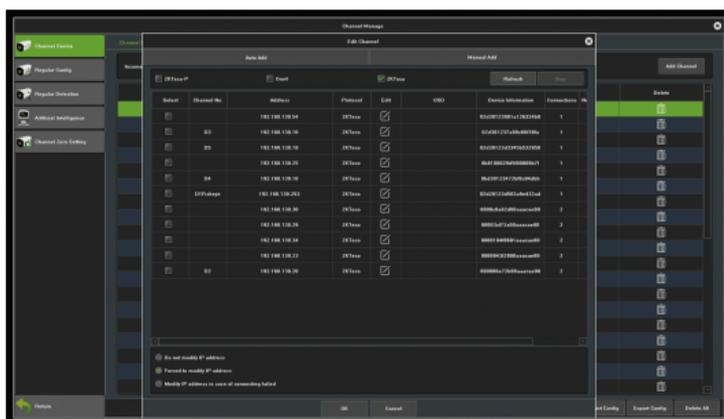

Figure 7.2 Add Channel(s)
- 3) You may click on the **Refresh** button to refresh the list of online IP cameras manually. Select a detected IP camera and click on **OK** to add it to the connection list directly, as shown in Figure 7.2.